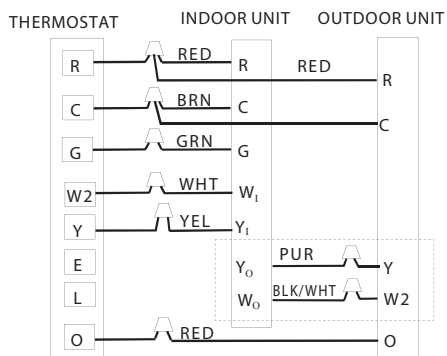

Fig. 4 - Wiring Layout Heat Pump Unit (Cooling and 2-Stage Heat) A150202
6. Connect per Fig. 4 when electric heat is used with a heat pump.